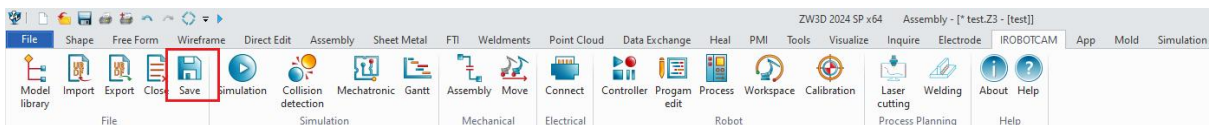

Figure 4-1: Save
- This save button does not save the file. (Figure 4-1)